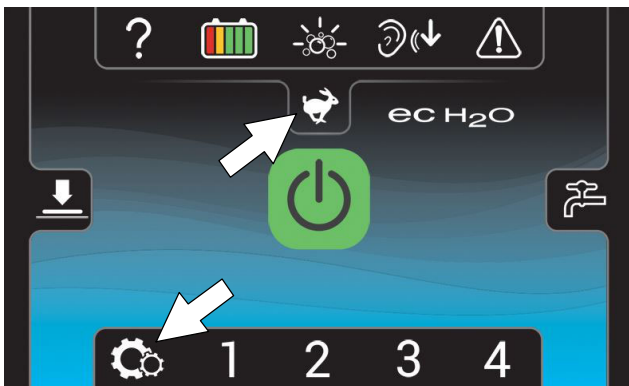

FIG. 40
**Supervisor Mode home screen** provides access to the machine settings button and to the maximum scrub speed button (Figure 40).